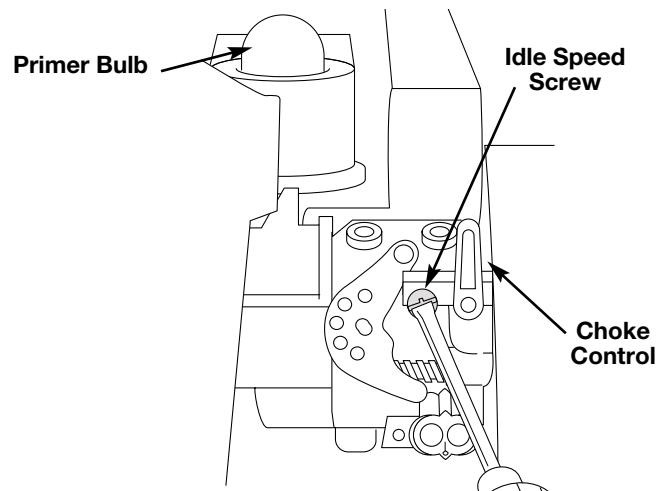

Fig. 21
- Restart the unit, move the throttle control to the idle position. If the engine stops, insert a small phillips or flat blade screwdriver into the idle speed screw (Fig. 21). Turn the idle speed screw in, clockwise, 1/8 of a turn at a time (as needed) until the engine idles smoothly.